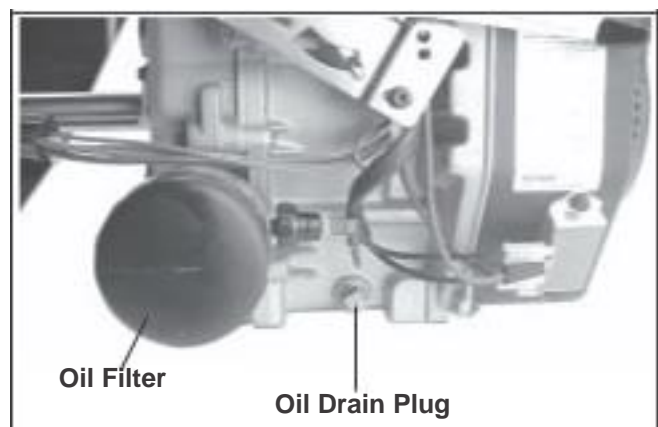

Figure 9-1. Location of Oil Drain Plug and Filter.
1. Remove the oil drain plug and oil fill cap/dipstick. See Figure 9-1.